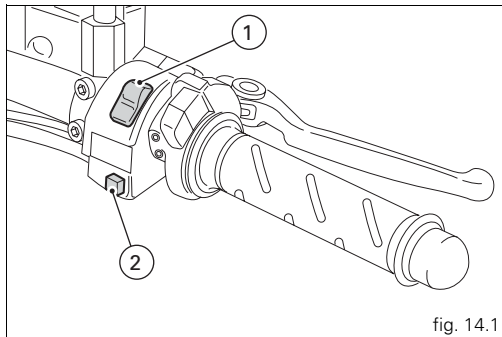

fig. 14.1
- 1) if the code is recognised, the warning light (6, fig. 4.1) on the instrument panel will flash briefly. This means that the immobilizer system has recognised the code and disabled the engine lock. When you press the START (3, fig. 14.1) button, the engine will start up.
Right-hand handlebar switch (fig. 14.1)